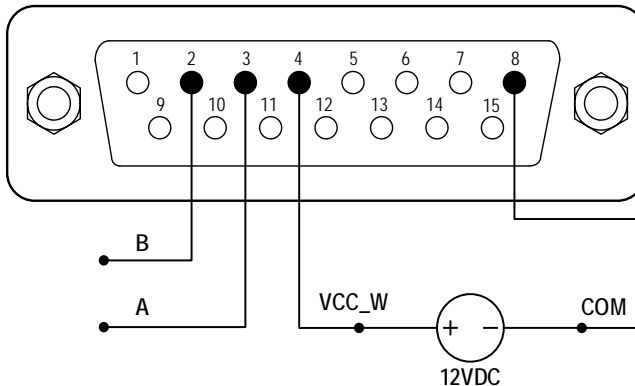

Figure 18. RS485 MODBUS Wiring
- 1) When the power is off, wire the DB15 connector as shown on *Figure 18*, and connect it to the DB15 port on the rear of the pump. External DC power source is recommend to avoid electrical interference.